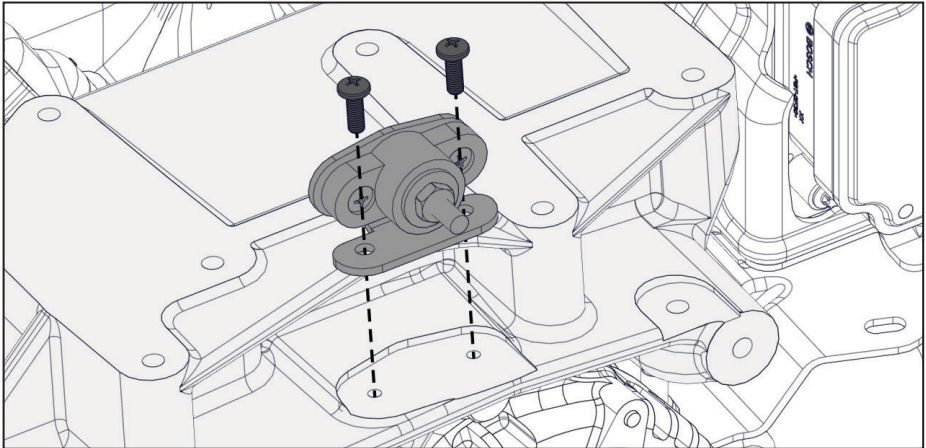

Figure 35 — Install terminal post
- ☐ Install the supplied bracket and terminal post onto the main bracket (Figure 35).